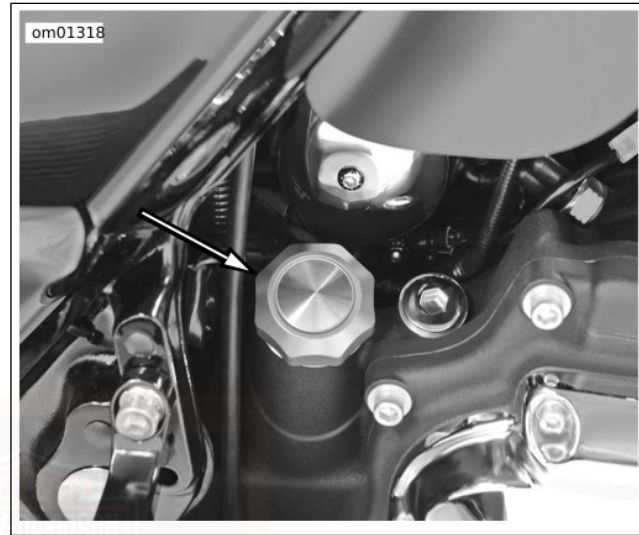

Figure 47. Engine Oil Filler Cap
2. See Figure 47. Remove filler plug/dipstick and wipe off the dipstick. Insert the dipstick and tighten into the fill spout.
3. See Figure 47. Remove filler plug/dipstick and wipe off the dipstick. Insert the dipstick and tighten into the fill spout.